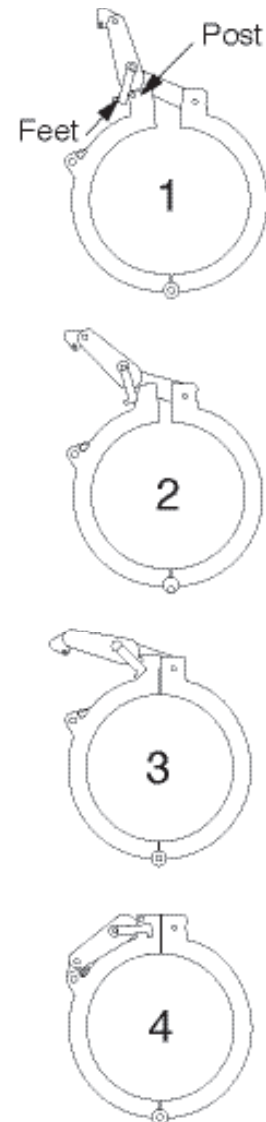

Figure 14
3. Install clamp around dome/base interface. Use the feet of the clamp handle to close the gap in the clamp. (Fig. 14)